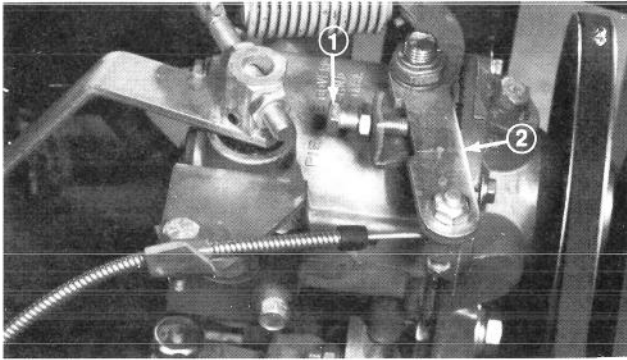

Figure 41
3. Slowly move throttle to FAST position until engine speed reaches 3200 rpm. Then set stop screw against throttle arm (Fig. 41).